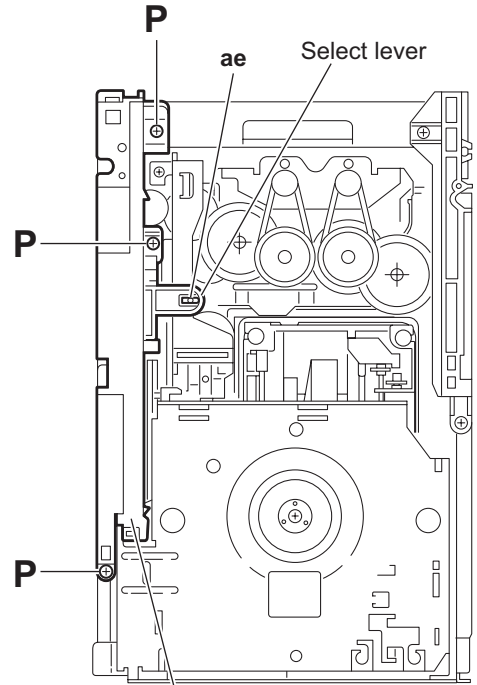

Fig.26
- Remove the three screws **P** and detaches the side (R) assembly upward. (See Figs.26 and 27.)
When reattaching the side (R) assembly, make sure to fit the shaft (part **ae**) into the slot of the select lever. (See Fig.26.)